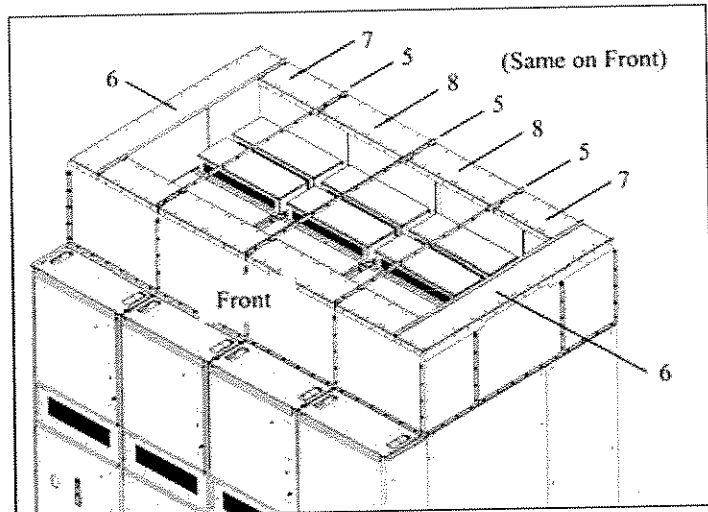

Figure 19. Installing the Horizontal Seam Covers.
1. Start at either end of the switchgear lineup. Using the 0.25" self-tapping screws, assemble the horizontal seam covers (5) (see Figure 19) to complete the arc exhaust wall assembly.